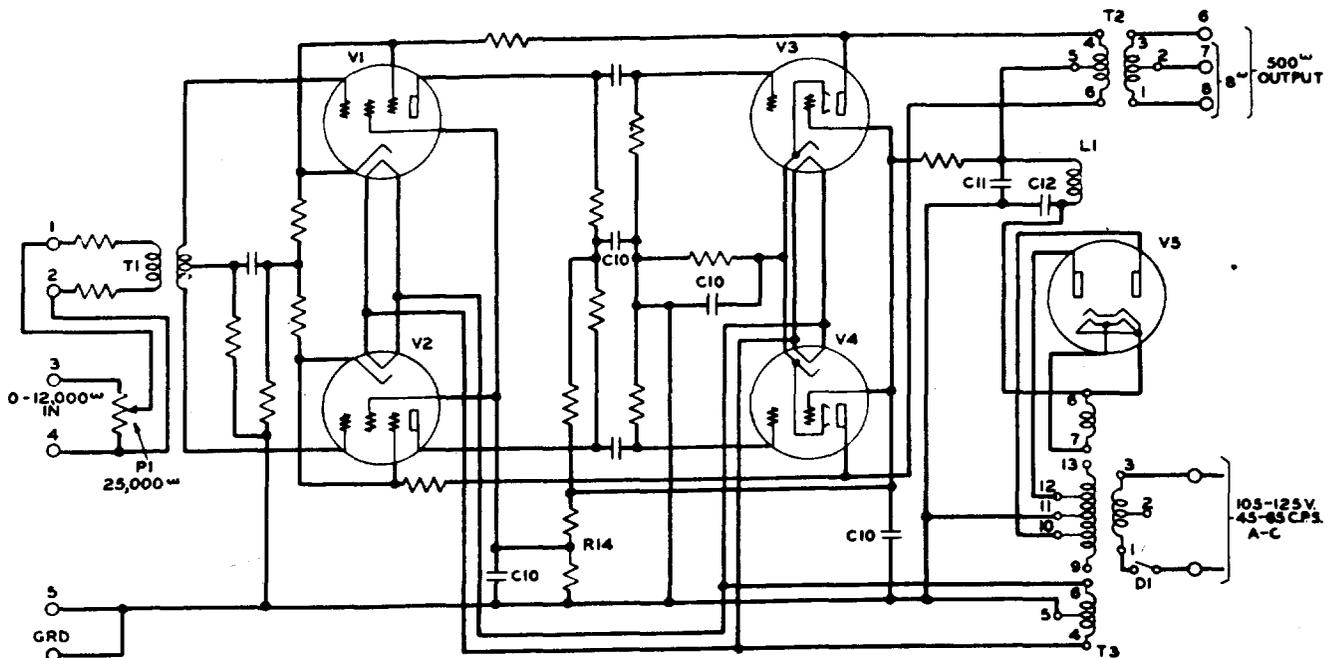

Fig. 1 — 94D Amplifier Schematic
2.01 The simplified schematic of the 94D amplifier is shown in Fig. 1. More complete drawings are shown in the instruction bulletin